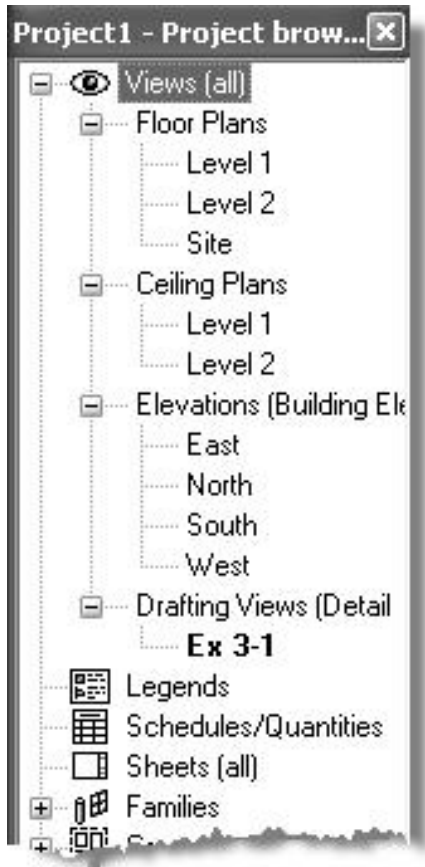

Figure 3-1.4 Project Browser: Drafting Views
7. In the *Project Browser*, click the plus symbol next to the label *Drafting Views*; this will display the *Drafting Views* that exist in the current project (Figure 3-1.4).